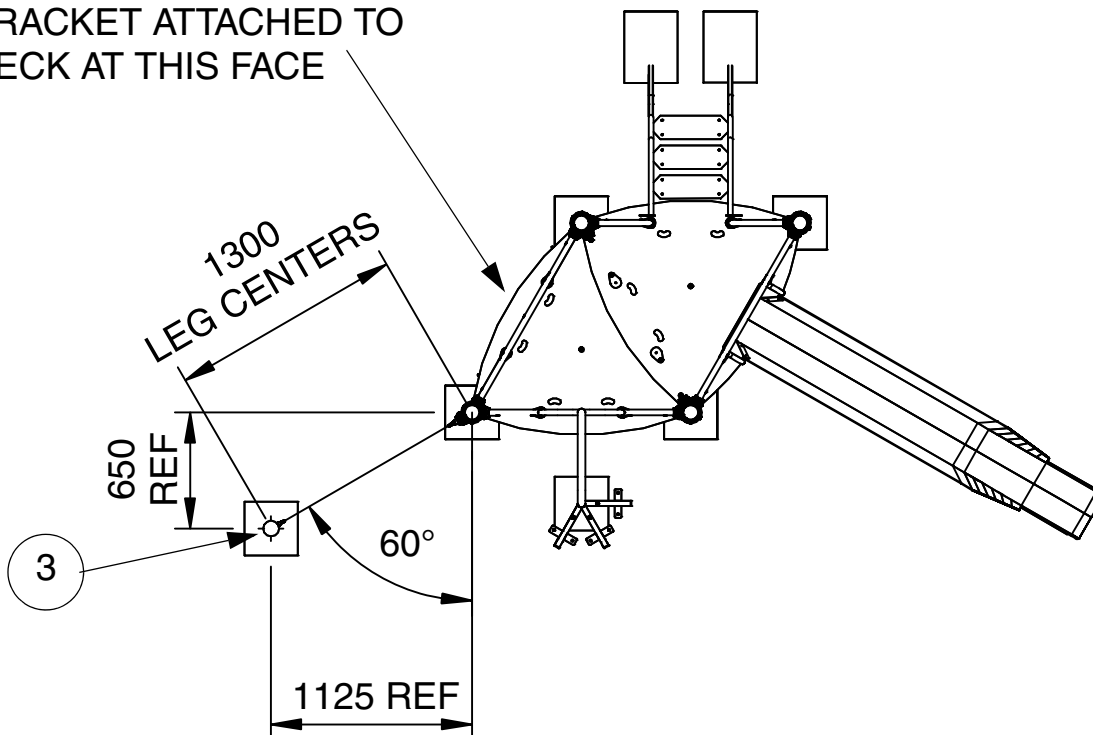

FIG.48
- 53) Place 1 off Rope Support Leg (item 3) into its foundation hole. Shim as required to align rope fixings with appropriate fixings on leg and check position and orientation. Ensure the post is plumb and square, using suitable props to hold leg safely in position. See FIG.48